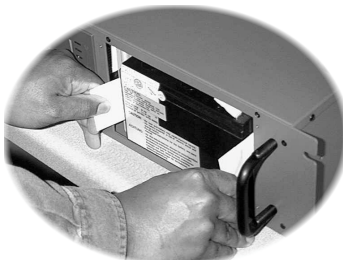

Figure 3
3. **700/1000/1400 VA models:** Gently pull on the white tabs located on both sides of the battery until wiring is exposed (Figure 3). Disconnect red wire (+) (figure 4) and the black wire (-) (figure 5).